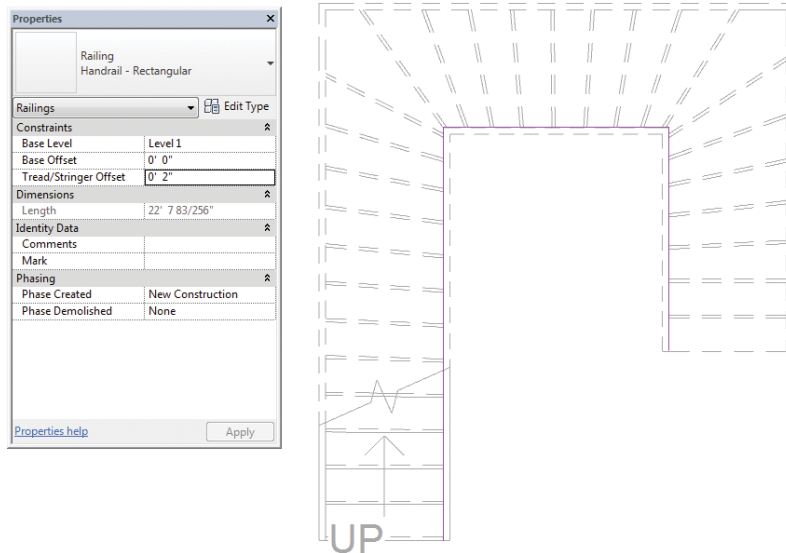

FIGURE 4.21 First sketch and Tread/Stringer Offset
2. Using the Pick Lines draw tool, select the inner line for each of the three stringers (see the sketch in Figure 4.21).
This will allow you to pick a specific reference but still assign a set value to move the railing to (Figure 4.21).